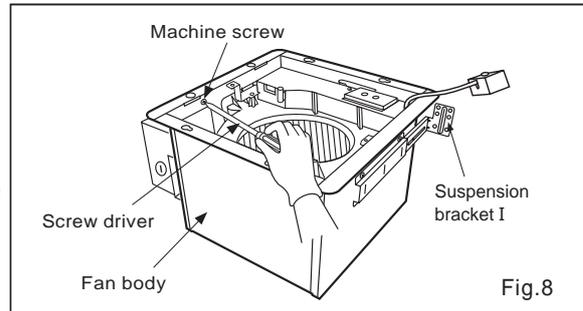

Fig.8
1. Remove the machine screw by using screw driver, disconnect plug connector from receptacle and remove adaptor from fan body before installation. (Fig.8)